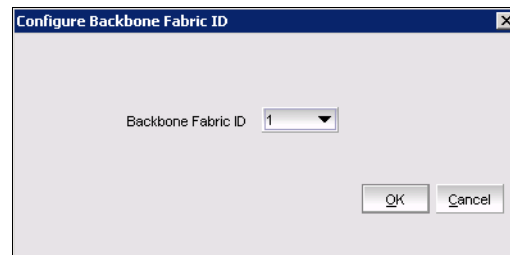

Figure 9-4 Setting Backbone Fabric ID
2. Click **Set Fabric ID** to open the window shown in Figure 9-4. Select the Fabric ID for the backbone fabric and click **OK**.